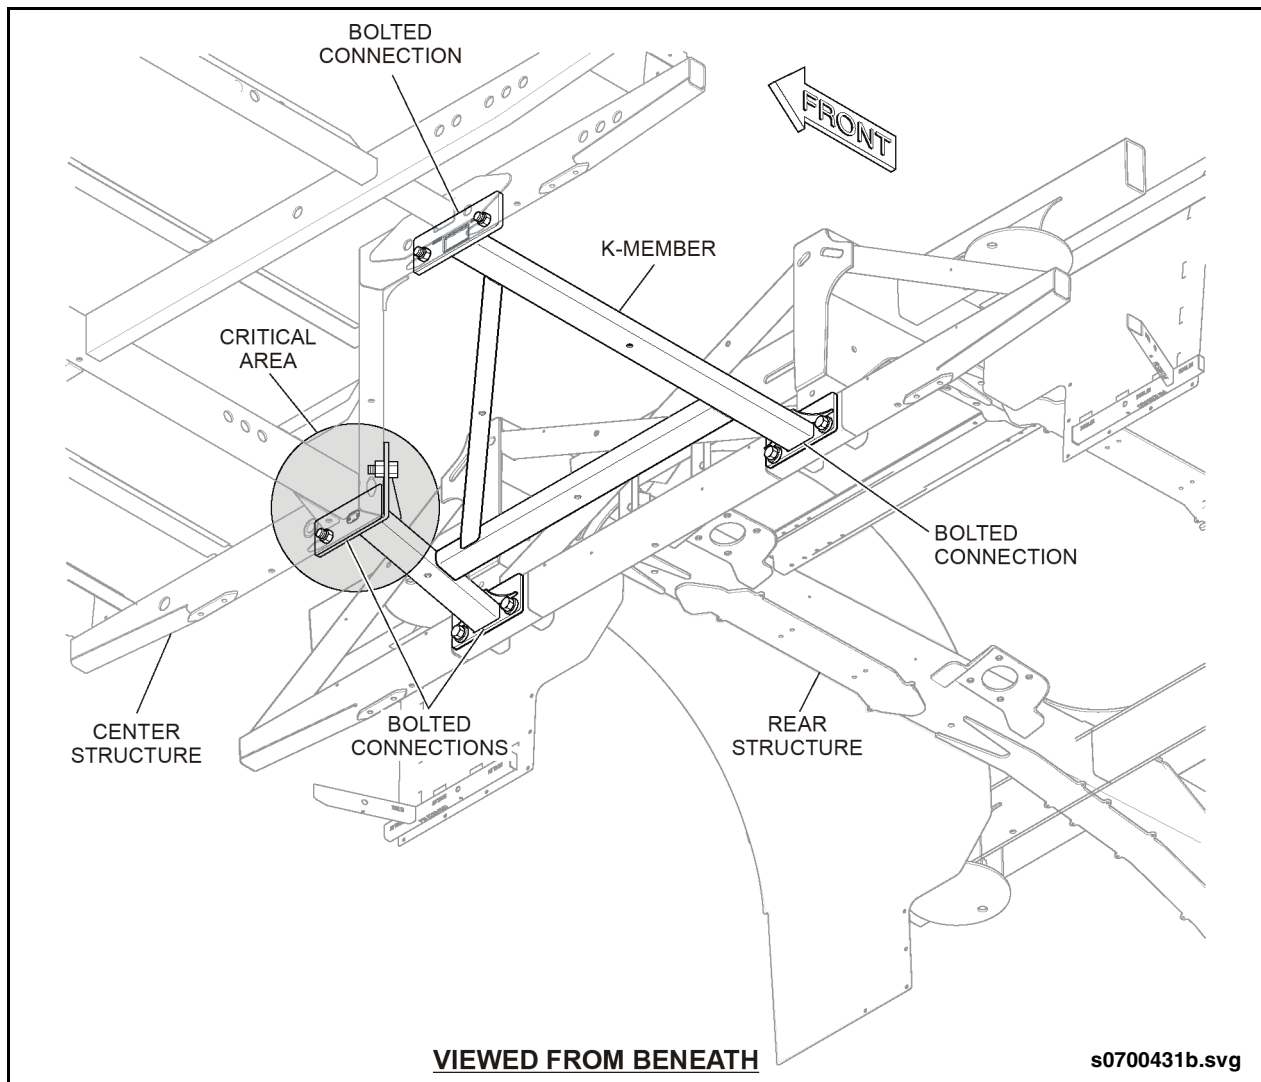

Fig. 1: Fuel Tank Support Frame
2. Locate the fuel tank support frame. See "Fig. 1: Fuel Tank Support Frame" on page 2.